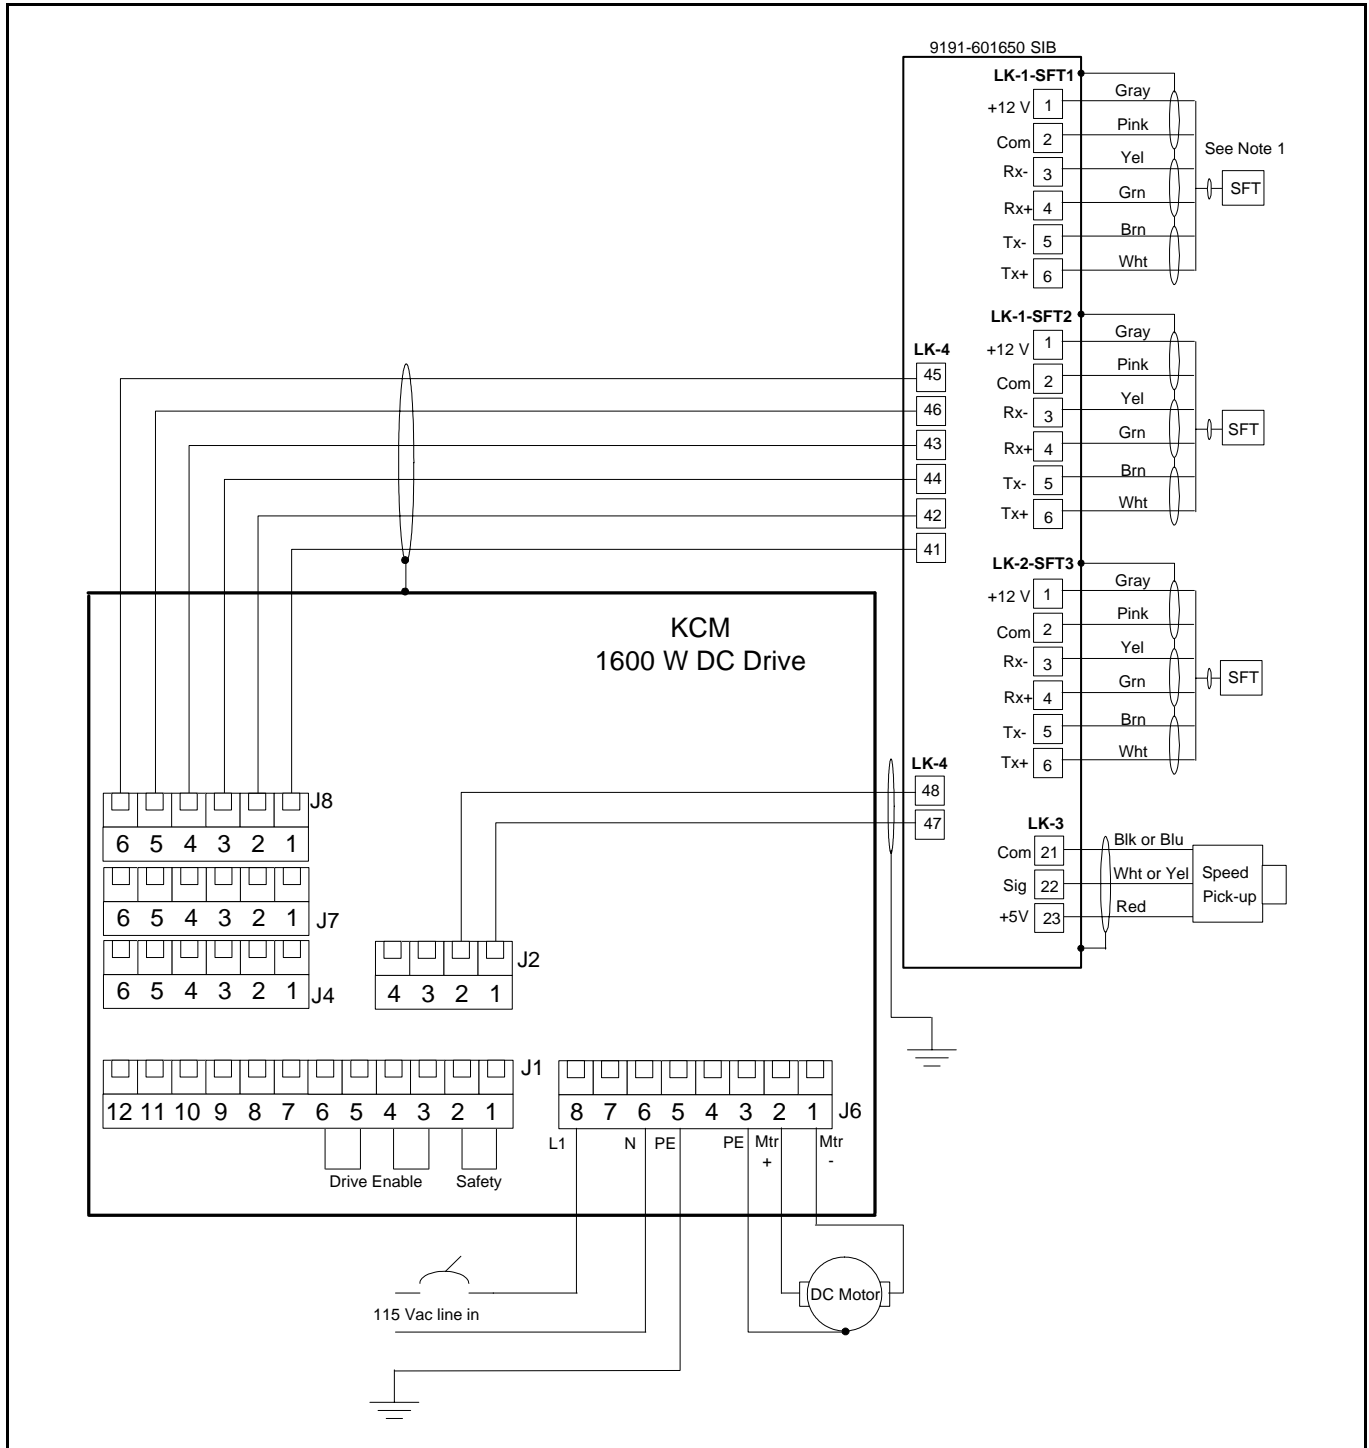
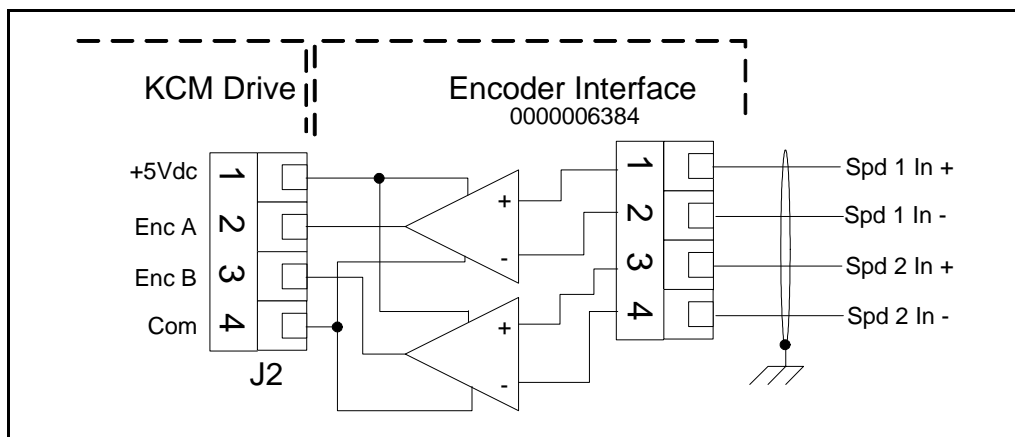

Fig. 12.8 KCM using the SIB pcb example with differential receiver on J2
Fig. 12.9 Differential input for DC motor drives wiring-Encoder Interface
This is a feeder wiring example for a remote KCM with a feeder mounted SIB circuit card for differential speed signal interfacing. (Fig.12.8 and Fig.12.9) The speed encoder interface is shown mounted to J2 in this example. (See Fig 12.9).
- Differential receiver-encoder interface pcb (0000006384) must be installed onto J2 on the Drive circuit card when the Scale Interface pcb interfaces to the KCM. (Fig.12.9)
- Figure 12.8 wiring shows the speed connection signals using the encoder interface circuit card
Figure 12.9 shows the wiring for the Encoder Interface circuit card.